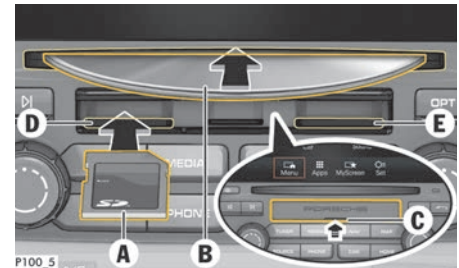

Fig. 161: Loading a CD/DVD or SD card
1. Use a finger nail to fold up the cover over the slot **C** (Fig. 161).